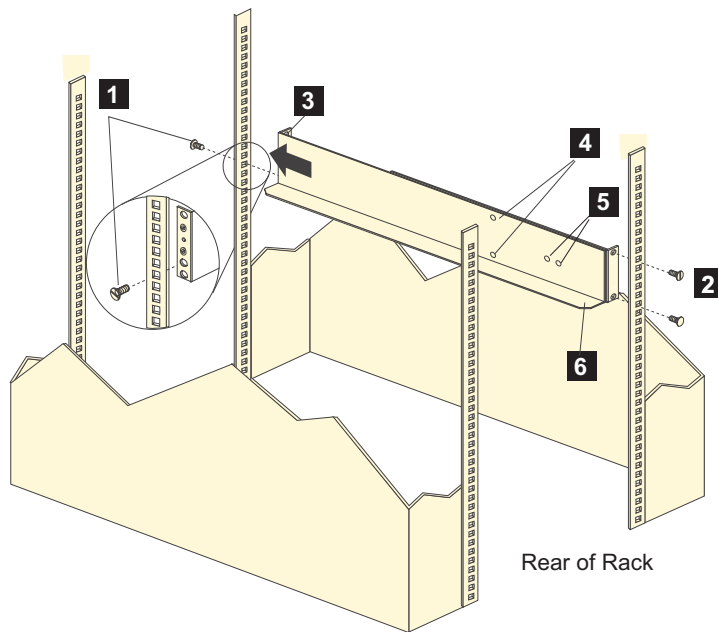

Figure 11. Installing the support rails
**Note:** Refer to Figure 11 on page 28 while performing these steps.
**Note:** The support rails are not marked as left or right. However, each rail can be correctly mounted on only one side of the rack cabinet. The rails should be mounted with the alignment pins at the back of the rack. Figure 11 on page 28 shows the installation of the left support rail.
2. Remove the four screws from the rails (two screws in each rail). See **4** in Figure 11 on page 28. If you do not remove these screws, the storage expansion enclosure will not fit securely.